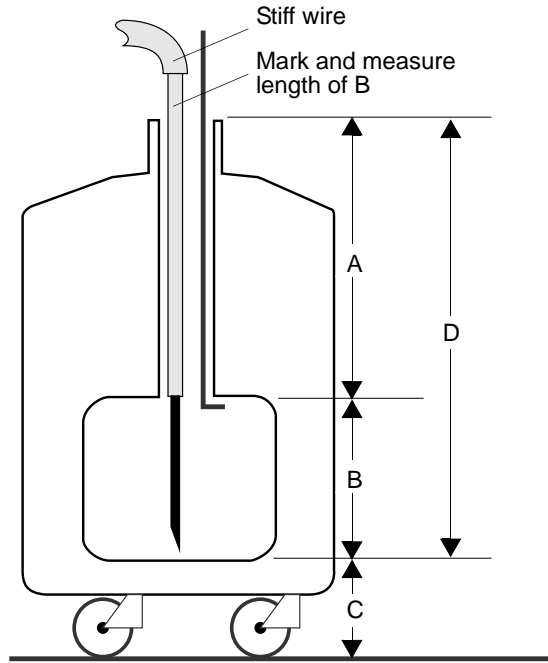

Figure 21. Stinger Configuration Measurements on the Storage Container
A stinger may be necessary to extend the transfer tube into the LHe storage container. Refer to Figure 21 for the measurements needed to determine the stinger length for a storage container. Take the following steps for each container:
- If this distance is less than 26 inches, constructing a platform under the storage container is necessary before proceeding. The platform must be designed to elevate the container so that the storage chamber top (C + D in Figure 21) is